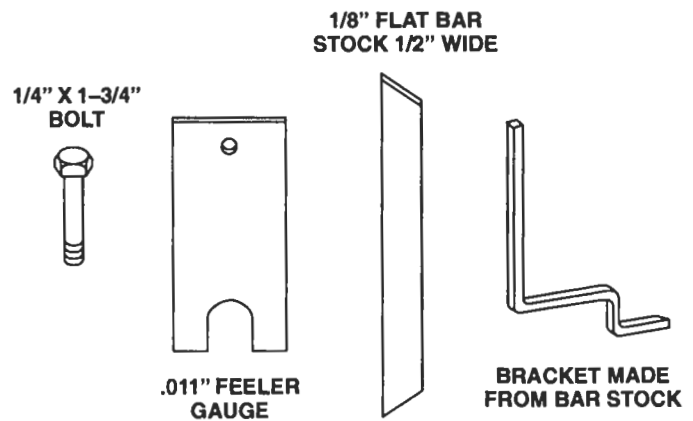

Figure 3. Fabricate Indexing Bracket
2. Fabricate an indexing bracket from a 5 inches long piece of 1/2 inch wide, 1/8 inch thick bar stock (Figure 3.)